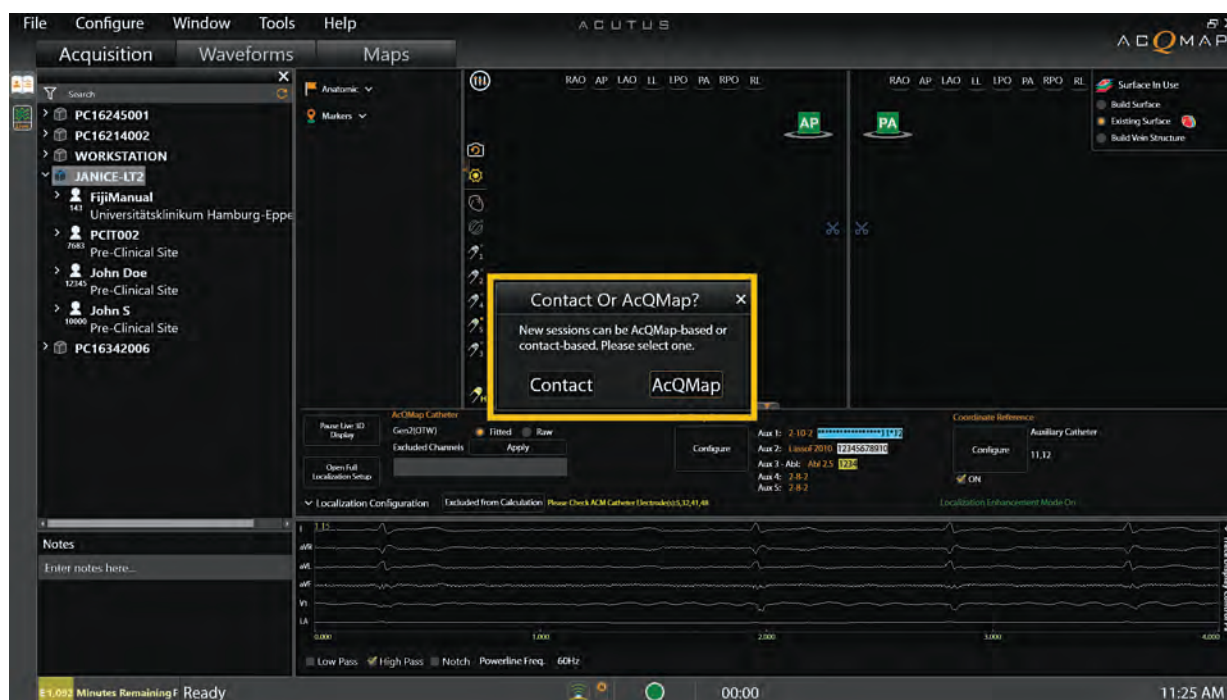

Figure 8-5. Select Mapping Mode: Contact or AcQMap.
6. Select mapping mode. Contact or AcQMap (Figure 8-5).